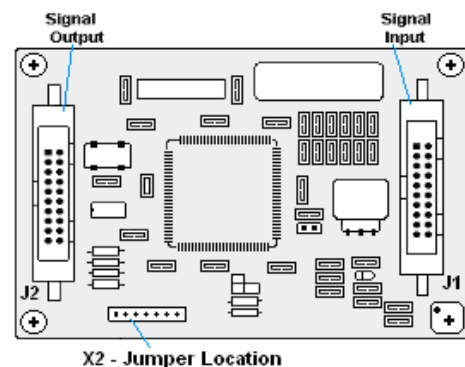

Figure 23: Shift Board
4. Remove signal cables from the shift card, noting the correct connections (**Figure 23**).